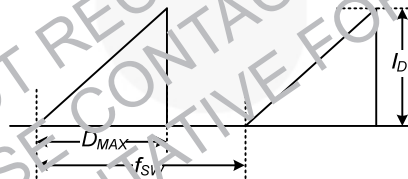

Figure 4 Repetitive Peak Switching Current
- Repetitive peak switching current when inductive load is assumed: Limited by maximum duty (D_{MAX}=0.73) and junction temperature (see Figure 4).